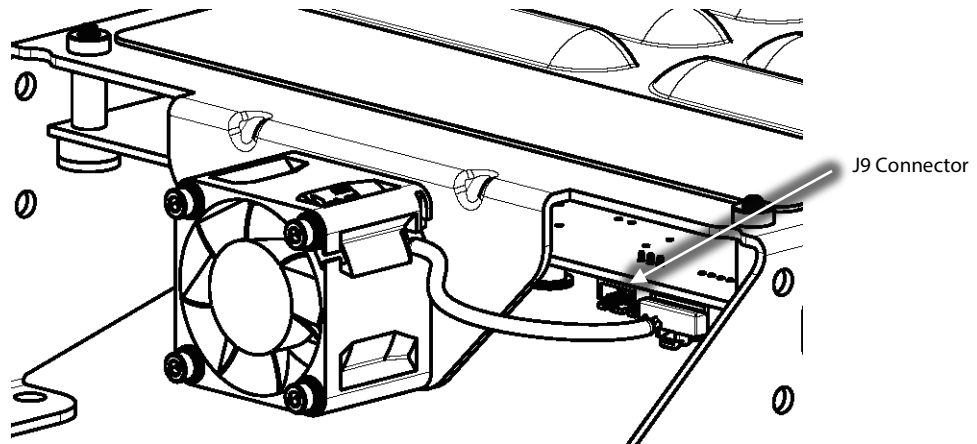

Figure 1 – Soft Start J9 Connector
6. Using an appropriately rated volt meter, check the DC bus bars for voltage level. If the voltage is above 5VDC, wait five (5) minutes and recheck until 5VDC or below is achieved.
7. For F Series and later compressors, remove the Soft Start Temperature Harness. Refer to Figure 1 (Soft Start J9 Connector).